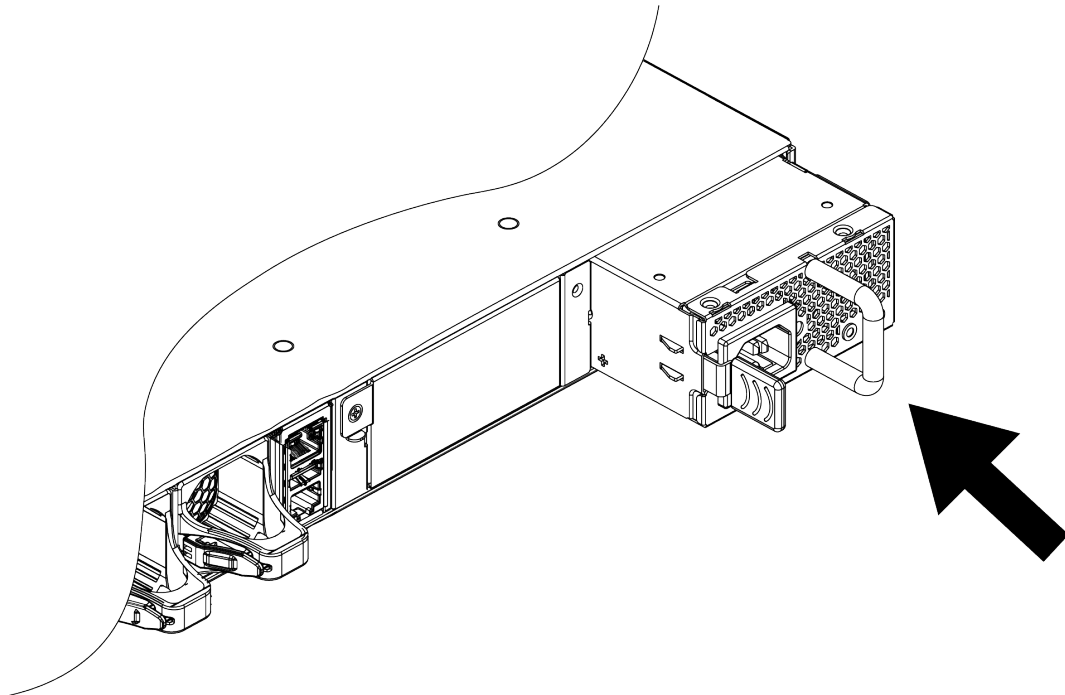

Figure 46: Installing a 715 W AC Power Supply
6. Carefully slide the power supply all the way into the power supply bay, as shown in Figure 46.